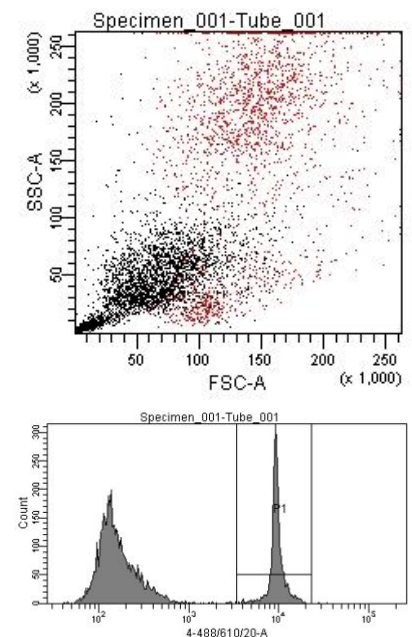

Fig. 4. Nucleated cell gating by CyTRAK Orange™ intensity of intact, unlysed bone marrow with retained forward and side scatter characteristics
**Flow cytometry:** CyTRAK Orange™ is excited by blue or green laser sources but is not excited by red light. Detect using bandpass filters centred on 610 nm. CyTRAK Orange™ marks nucleated cells for gating (see fig. 4). CyTRAK Orange™ may be used to discriminate arrested / senescent cells based on increased brightness.